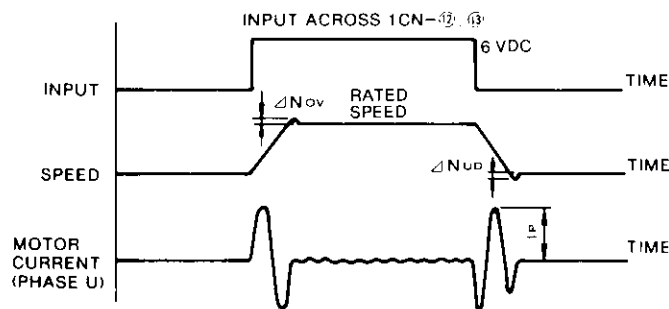

Fig. 12.3 Start-Stop Response Characteristics
(3) Start-stop response characteristics (Fig. 12.3)